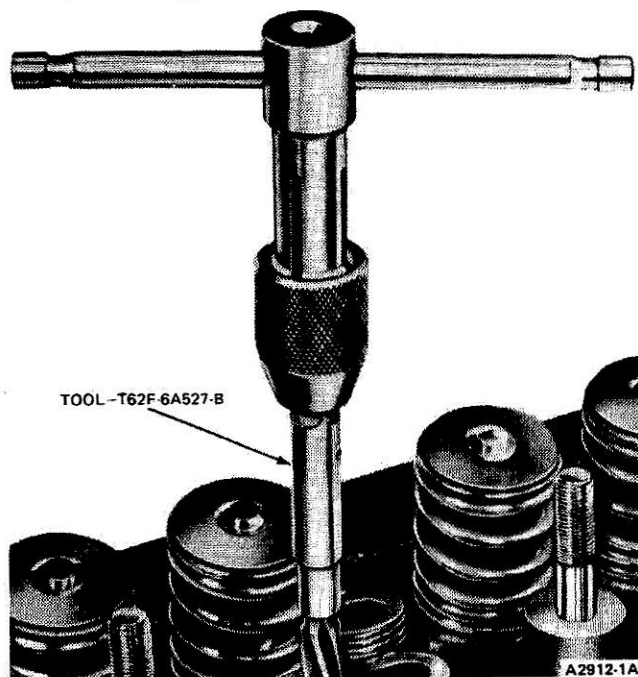

FIG. 23 Reaming Rocker Arm Stud Bore
2. If a loose rocker arm stud is being replaced, ream the stud bore using the proper reamer (or reamers in sequence) for the selected oversize stud (Fig. 23). **Make sure the metal particles do not enter the valve area.**